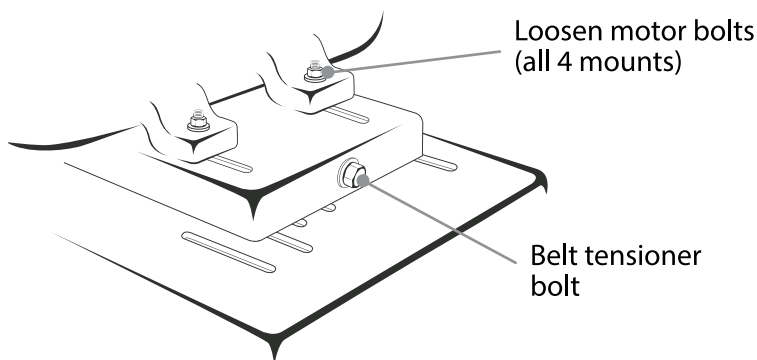

Figure 11: Belt adjustment
2. Adjust belt tension as needed by loosening the four motor frame nuts then adjusting single bolt head on belt tensioner. See figure 11. **Remember to tighten motor bolts after adjustment is made.**